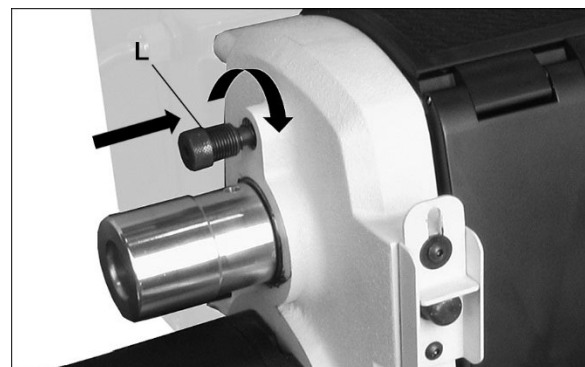

Figure 7-7: index pin
See Figure 7-7.
1. Rotate spindle using handwheel until index pin (L, Figure 7-7) aligns with desired hole.